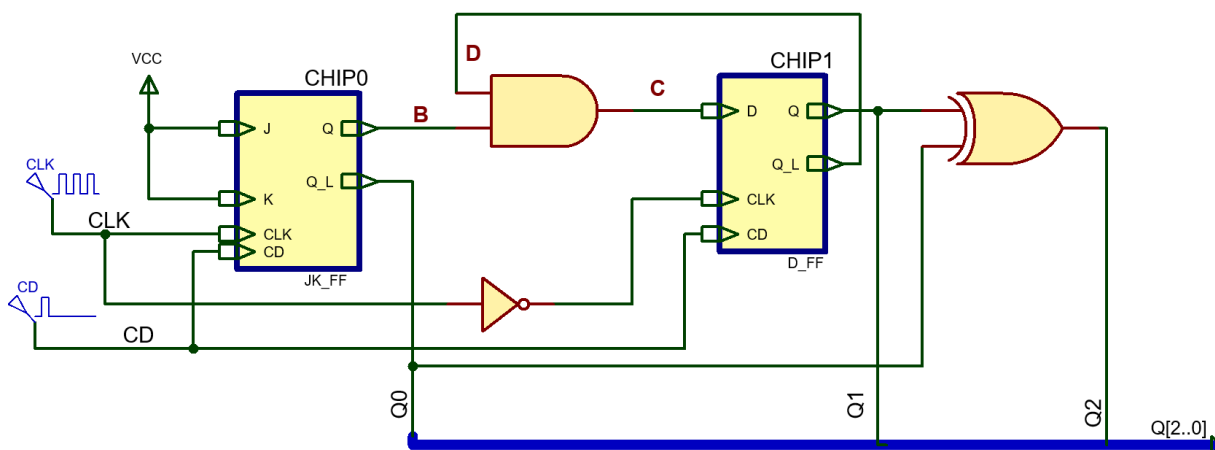

Fig. 10.
10. Analyse the circuit in Fig. 10 using a timing diagram and find the binary codes in the output vector $Q(2..0)$. Discuss what will be the circuit's maximum frequency of operation, and how to measure it in the laboratory.